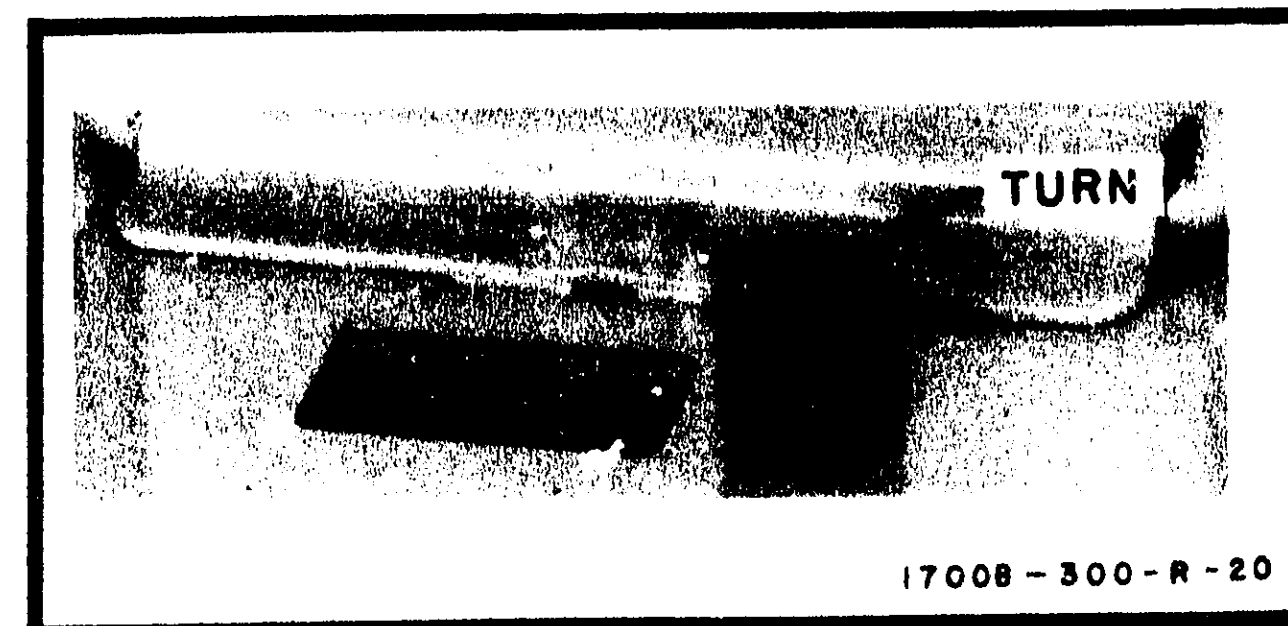

Figure 2-1. Pressure Equalizer Valve
b. Turn PRESSURE EQUALIZER valve (figure 2-1) in ccw direction.